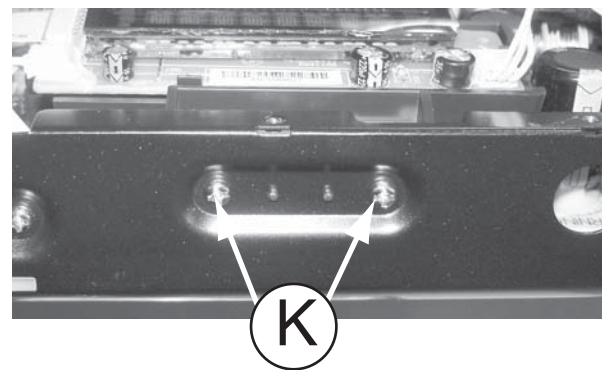

Figure 13
- 2) Loosen 2 screws "K" to remove VFD Board as shown in figure 13.